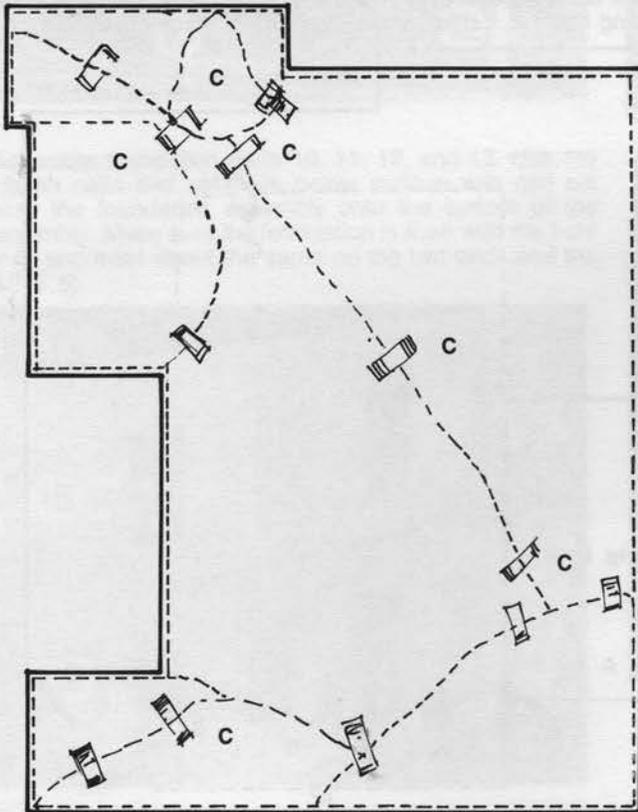

Fig. D-20
(FIGURE D-20) shows small and large page corners fitted snugly into each area and also taped securely to the first piece, (B).